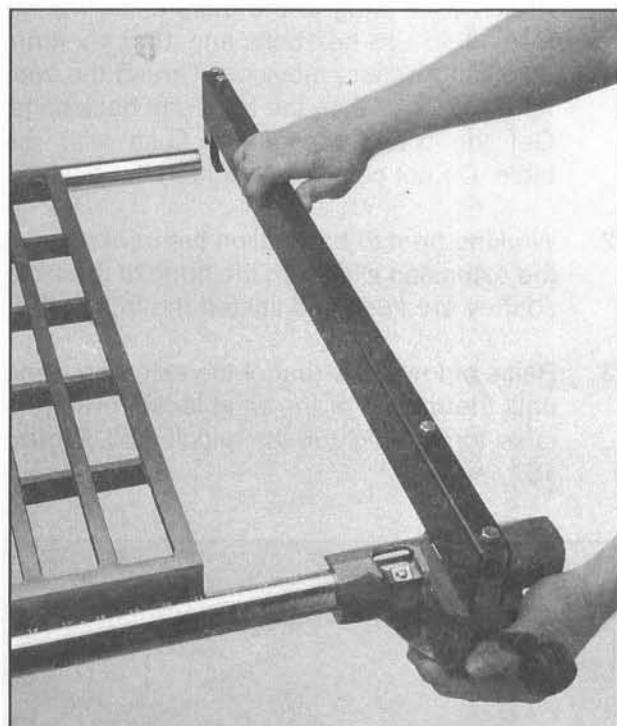

Figure 20.
2. Set the lock handle in the up position and slide the fence over the front and rear rails. **Figure 20.**